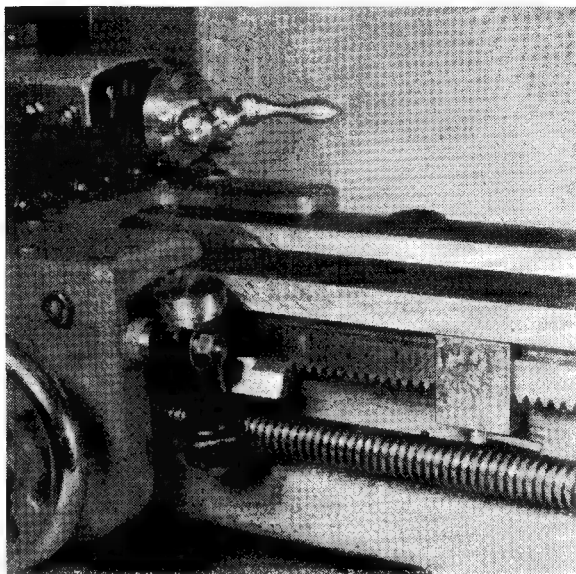
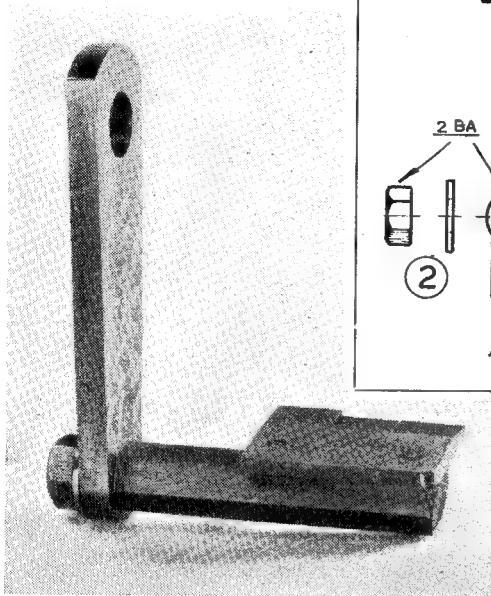
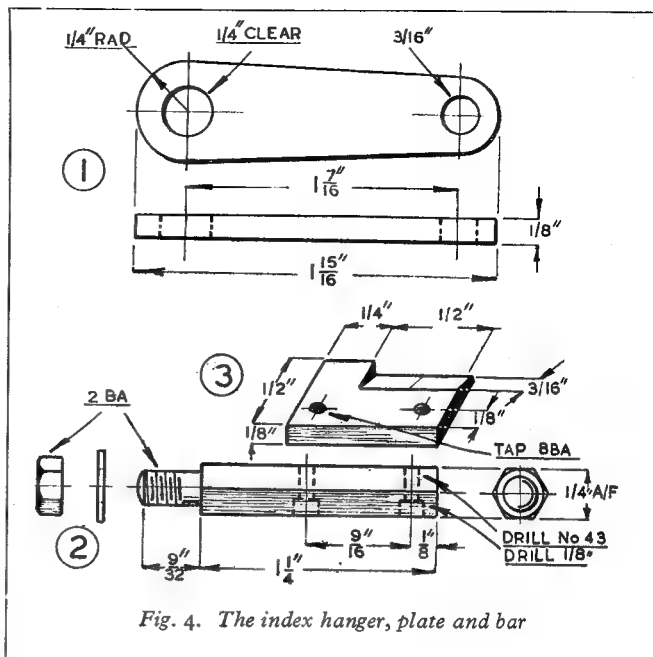

Fig. 1. Saddle index fitted to the Myford lathe
Fig. 3. The scale index
Fig. 4. The index hanger, plate and bar
The photographs Figs. 1 and 2 illustrate how this scale has been fitted to the Myford M.L.7 and Myford-Drummond lathes respectively.
The index fitted to the M.L.7 lathe can be seen in Fig. 1, and its appearance when detached from the saddle is illustrated in Fig. 3. In the present case, the modified form of thread indicator, previously described, is fitted, and the hanger carrying the index plate replaces the standard fibre washers and is thus secured in position when the thread indicator clamp-nut is tightened.
As shown in the photograph, Fig. 3, the index member consists of three main parts: a vertical hanger (1), ■ hexagon carrier bar (2), and an index plate (3). The working drawings for these components are given in Fig. 4.